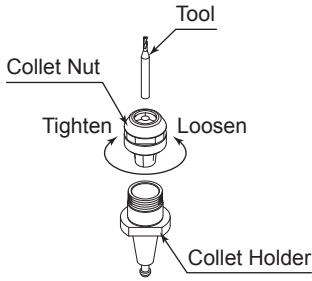

Fig. 8
- (2) Attach the collet and collet nut to the collet holder and lightly finger tighten. (Do not completely tighten until the end) (Fig. 8).